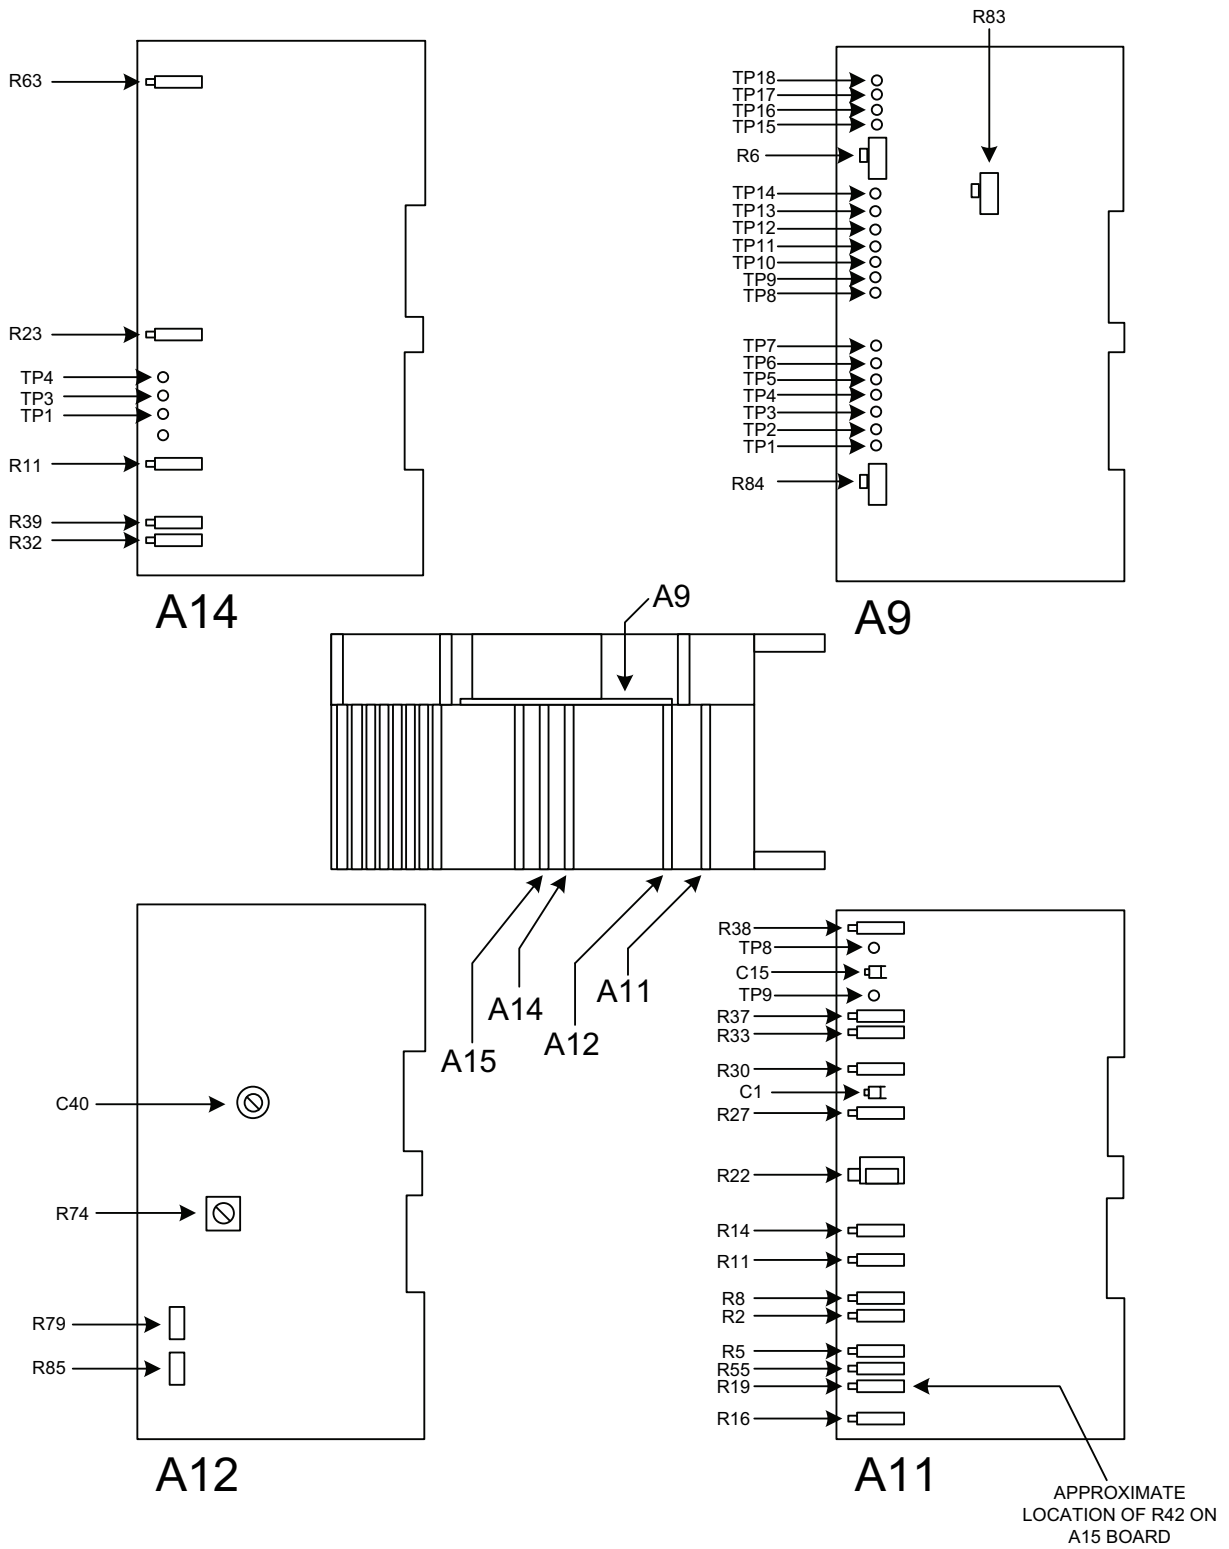

Figure 2. Test instrument - adjustment locations.
- h. If TI output voltage as indicated on multimeter is not  $0 \pm 5 \mu\text{V}$  dc, press **50 DIVIDER-OVERRIDE** to **OVERRIDE** and adjust A14R63 (fig. 2) for 0 (zero)  $\mu\text{V}$  indication on multimeter.
- (1) Adjust **EDIT** control for a +19.0000 mV dc indication on TI.
- (2) Adjust A11R55 (fig. 2) for nominal value on multimeter (R).
- (3) Adjust **EDIT** control for a -19.0000 mV dc indication on TI.
- (4) Adjust A11R55 (fig. 2) for nominal value on multimeter.
- (5) Repeat **b** (1) through (4) above, if necessary for best in-tolerance compromise for both +19.0000 and -19.0000 mV dc outputs.
- (6) Adjust **EDIT** control for a +190.000 mV dc indication on TI.
- (7) Adjust A11R16 (fig. 2) for nominal value on multimeter (R).
- (8) Adjust **EDIT** control for a -190.000 mV dc indication on TI.
- (9) Adjust A11R16 (fig. 2) for nominal value on multimeter.
- (10) Repeat **b** (6) through (9) above, if necessary for best in-tolerance compromise for both +190.000 and -190.000 mV dc outputs.
- (11) Adjust **EDIT** control for a +1.90000 V dc indication on TI.
- (12) Adjust A11R19 (fig. 2) for nominal value on multimeter (R).
- (13) Adjust **EDIT** control for a -1.90000 V dc indication on TI.
- (14) Adjust A11R19 (fig. 2) for nominal value on multimeter.
- (15) Repeat **b** (11) through (14) above, if necessary for best in-tolerance compromise for both +1.90000 and -1.90000 V dc output.
- (16) Enter **EDIT** control for a 19.9900 V dc output.
- (17) Adjust A11R30 and A11R33 (fig. 2) in equal amounts in opposite directions for optimal value on multimeter (R).
- (18) Adjust **EDIT** control for a 199.900 V dc output indication on TI.
- (19) Adjust A11R27 (fig. 2) for optimal value on multimeter (R).
- (20) Adjust **EDIT** control for a 400.000 V dc output indication on TI.
- (21) Adjust A11R37 (fig. 2) for optimal value on multimeter (R).
- (1) Adjust EDIT control for 1.90000 mA dc output.
- (2) Adjust A15R42 (fig. 2) for 1.900000 mA dc indication on multimeter (R).
1Connect multimeter between A11TP8 (HD) (fig. 2) and A11TP9 (LO) (fig. 2). Adjust A11R38 (fig. 2) for nominal indication on multimeter (R).
2Adjust A11R30 and A11R33 (fig. 2) equal amounts in same direction for nominal indication on multimeter(R).